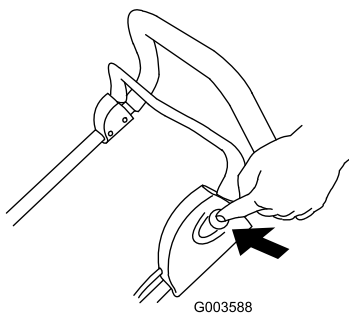

Figure 15
3. Push the button on the left side of the handle and hold it in (Figure 15).